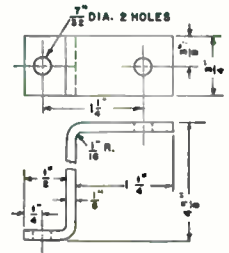

Fig. 9. Dimensions of the four angles which were used to hold the yoke and focus coil bracket assembly in place on the Capehart-Farnsworth Model 651P.
- 4—angles as shown in Fig. 9
11. Four brackets, the dimensions of which are given in Fig. 9, were made and used to mount the deflection yoke and focus coil bracket four and five-eighths inches higher and one and one-quarter inches in back of the original position. These can be seen in Fig. 10.